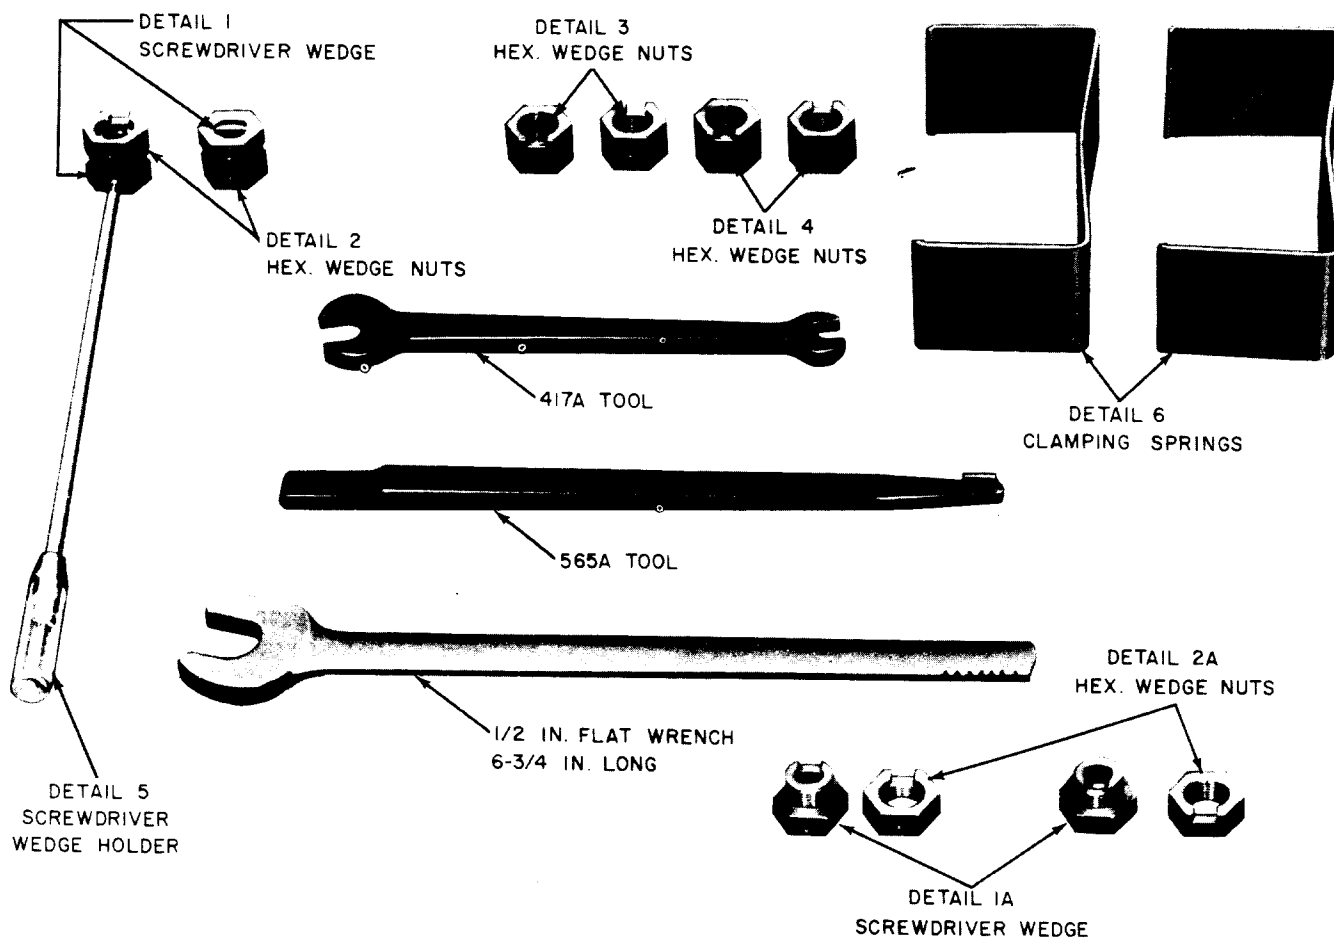

Fig. 19—KS-20558 L1 Tool Kit (KS-20557 L1 Carrying Case Not Shown)
3.52 Figure 19 illustrates the tools comprising the KS-20558 L1 tool kit which is used when replacing defective halves of 287- or 288-type relays.
Note: On details 2, 3, or 4 there is a marker on the side opposite the slot. These markers should be aligned with the tapped hole in the screwdriver wedge (detail 1) into which the screwdriver wedge holder (detail 5) fits. See Fig. 19.
3.61 Insert the screwdriver wedge holder (detail 5) into the tapped hole of the screwdriver wedge (detail 1), as shown in Fig. 19.